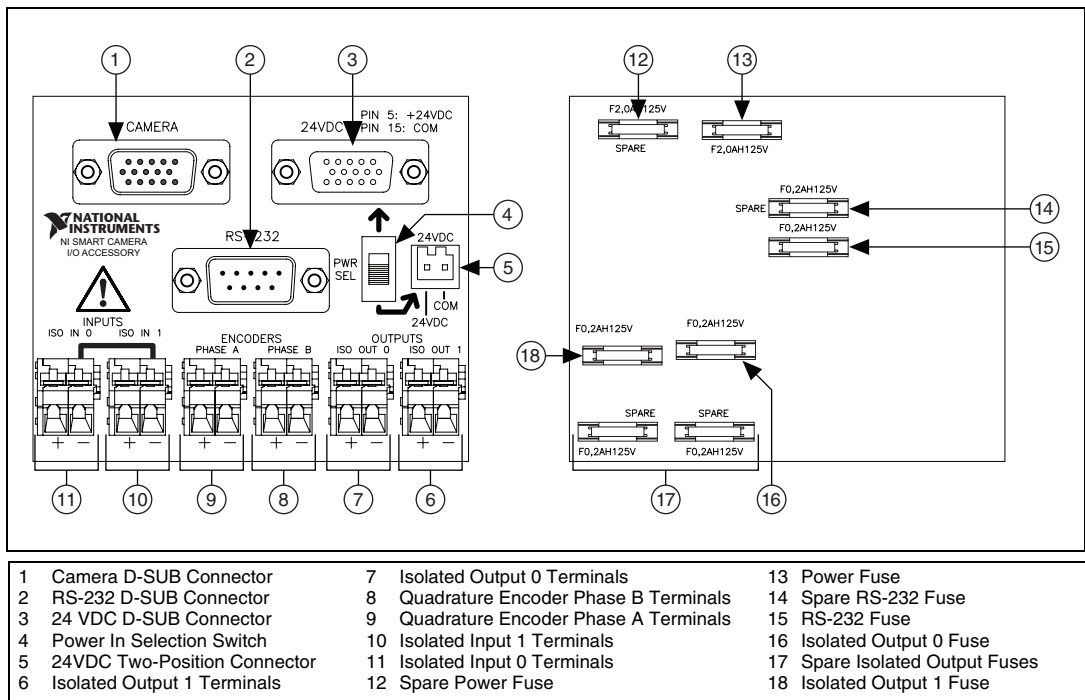

Figure 1. Front and Back Views of the NI Smart Camera I/O Accessory Circuit Board
Figure 1 shows the accessory circuit board parts locator diagram.
To get started with the NI 17xx Smart Camera I/O Accessory, complete the following steps while referring to Figure 1.
Connect the wires to the isolated input, isolated output, and/or quadrature encoder terminal blocks by stripping 1/4 in. of insulation, pressing on the lever of the spring terminal with a small flathead screwdriver, and inserting the wire into the terminal. Figure 1 shows the terminal locations. Refer to the *NI 17xx Smart Camera User Manual* for information about using isolated inputs, isolated outputs, and quadrature encoders.
The NI Smart Camera I/O Accessory has four replaceable fuses. Refer to Figure 1 for the fuse locations.
5. Replace the blown fuse while referring to Figure 1 for the fuse location.
Spare fuses can be found next to each fuse location as shown in Figure 1. You also can order additional fuses from Littelfuse at www.littelfuse.com or from electronics distributors.